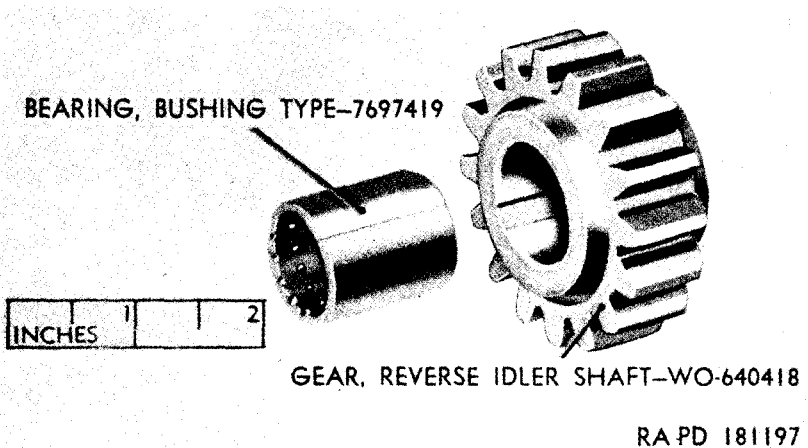

Figure 61. Transmission reverse idler shaft gear—disassembled view.
a. Disassembly. The reverse idler shaft gear (fig. 61) requires no disassembly except the removal of the bushing type bearing. Do not remove the bearing unless inspection (*b* below) reveals it to be unserviceable. To remove the bearing, press or drive bearing out of bore of gear with a suitable removing tool.
- (1) *Inspection.* Inspect teeth of reverse idler shaft gear (fig. 61) for chips, pits, scores, or breaks. Replace gear if teeth are excessively damaged or worn. Measure inside diameter of
- (2) *Repair.* Slight faults, such as nicks, burs or scratches, on reverse idler shaft and shaft gear may be removed with a hone. Replace gear or shaft if these faults cannot be easily removed.
c. *Assembly.* To install new reverse idler shaft gear bushing type bearing (fig. 61), place new bearing in bore of reverse idler shaft gear and press or drive into position. Ream bearing to size specified in repair and rebuild standards (par. 270d).